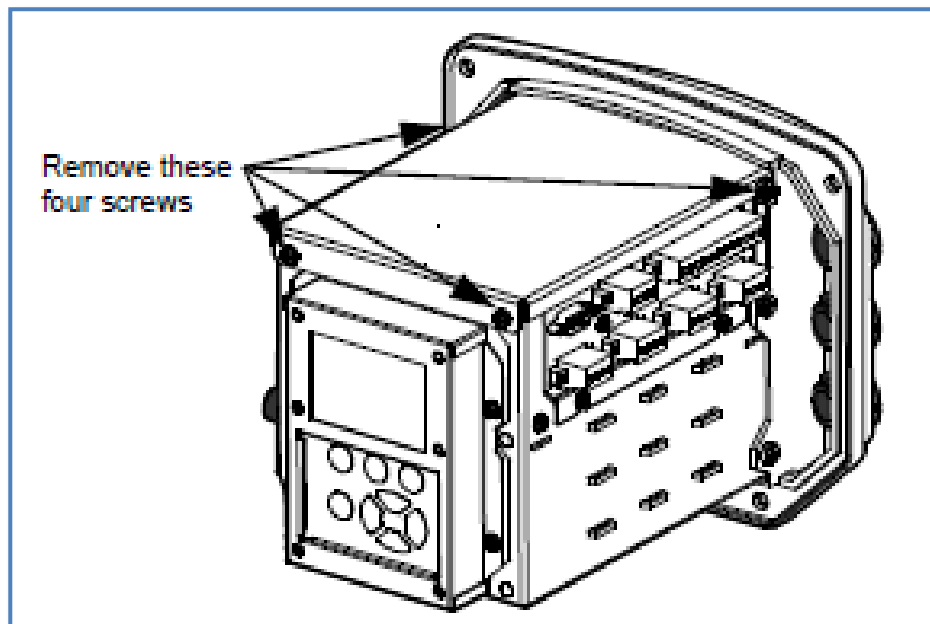

Figure E-1: Opening the Electronic Card Cage
2. Remove the four screws holding in place the cover plate of the electronic card cage and remove this plate. See Figure E-1 below.
10. Put back and tighten the four screws holding in place the cover plate of the electronic card cage. See Figure E-1 E-3 above.